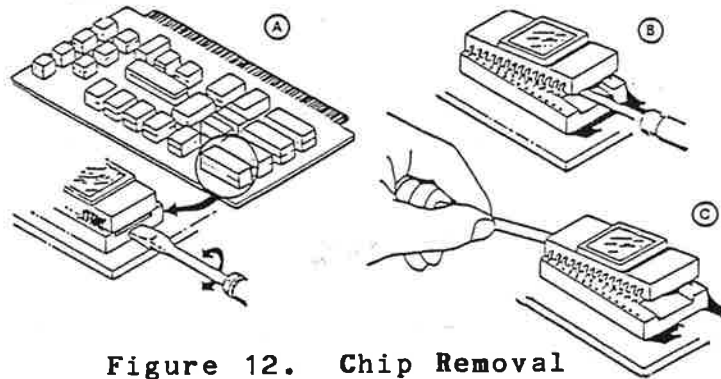

Figure 12. Chip Removal
To remove chips from the boards, insert a screwdriver blade under the chips to slowly and evenly pry them out of their sockets as shown in Figure 12. (A) Insert the blade at one end of the IC, (B) pry it out the rest of the way.